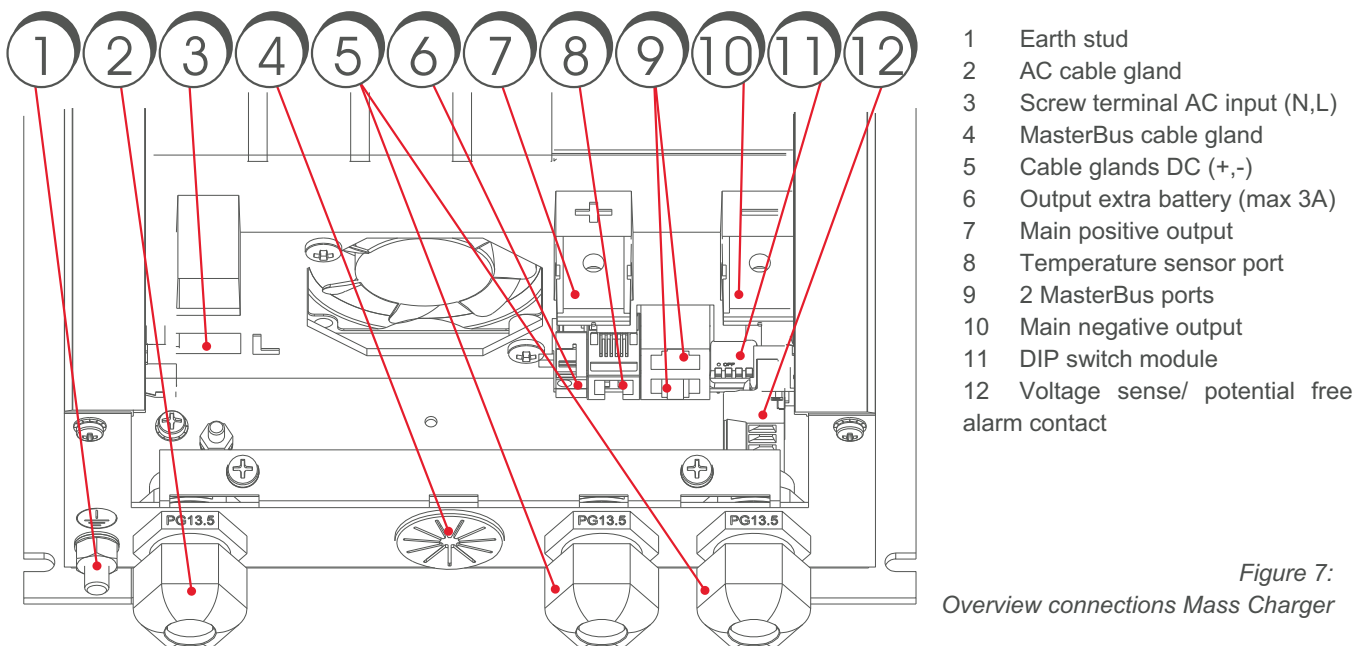

Figure 7: Overview connections Mass Charger
- Connect the plus of the second battery to the +3A terminal of the Mass Charger (see fig. 7 and 8).
The standard temperature sensor is provided with 6 m cable and a double-sided tape for easy installation. Determine the warmest place on the battery set and make it clean and grease free. Remove the piece of paper from the tape and stick the sensor on the battery. Plug the 6way cable into a terminal at the right of the Mass Charger (see fig. 7 and 8). It is not necessary to shorten the cable. When you want to shorten it anyway please notice the polarity of the plug and use the old connector as an example.
To shorten the charge time substantially, the battery cable losses can be compensated by using the sense function. Use 0,75 mm², preferably red and black wire and secure these with fuses of 2A slow blow. Connect the wires with the two upper terminals of the green connector at the right side of the cabinet (see fig. 7). Pay good attention to the polarity of the wires, red on +S and black on -S. Now connect the other side of the wires: black on the minus of the battery and red on the battery side of the Mass Charger fuse.
The battery charger is equipped with a potential free contacts alarm relay, see figure 7. The alarm function has two modes: standard (factory setting) and DC alarm mode (continuous mode).
Figure 7 shows the Mass Charger connections.
- 2 mm flat blade screw driver for the sense terminal (figure 7 point 12).